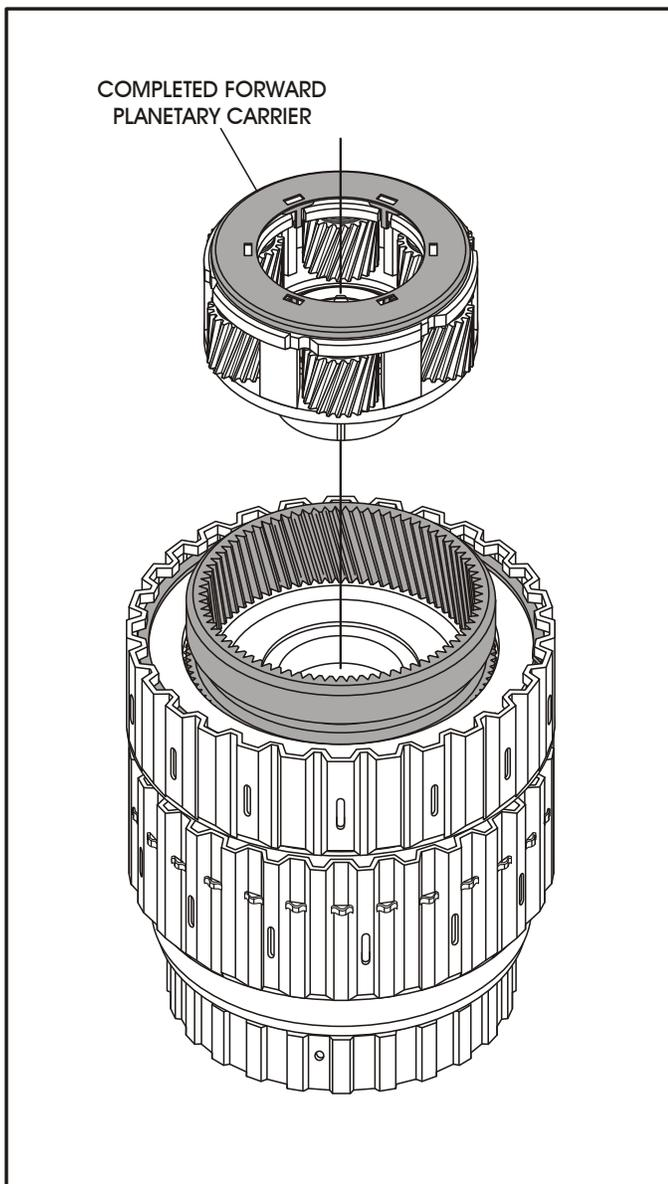

Figure 147
5. Install the completed forward planetary carrier, as shown in Figure 147, by rotating into the ring gear until fully seated.